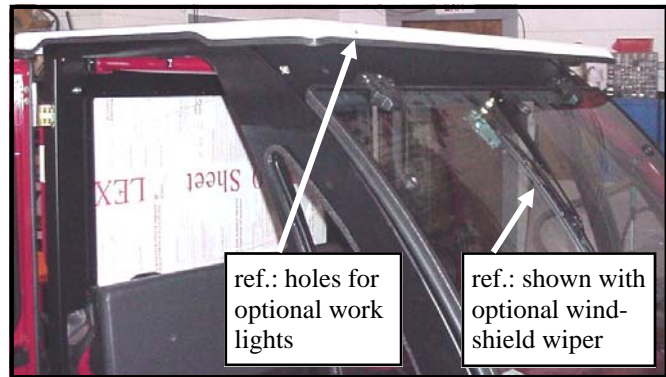

Fig. 9.1
9.1 Position the roof so that the row of five holes lines up with the row of five holes in the windshield support per Fig. 9.1. Install 3/4" long carriage bolts in all roof holes except the two front corners. The left and right front corner holes will require 1" long carriage bolts. Locknuts to be on the inside of the cab. Plastic washers to be under the bolt heads which are to be on the exterior surface of the roof.